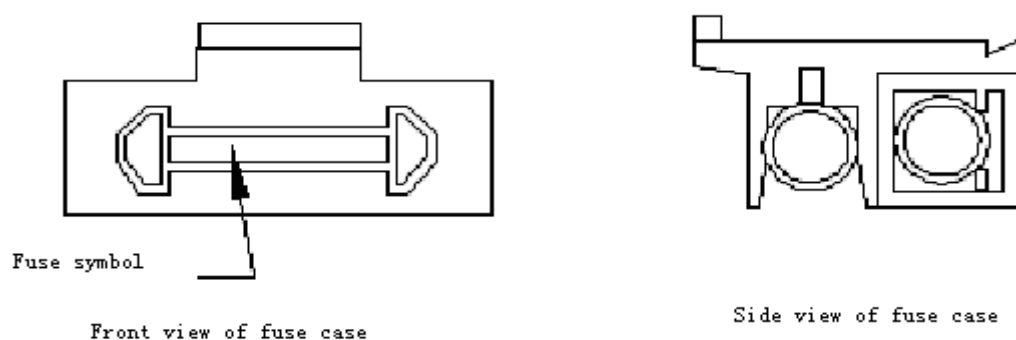

Figure 3
- (1) Cut off the power, and unplug the plug the power cord connected with the external electric supply socket. Then draw another end of the power cord connected with the centrifuge.
- (2) There is a fuse case equipped on the under part of electric outlet on instrument back. (See figure 3) There is a marking for fuse symbol, and find the V-shape slot on fuse case. (See figure 4) Pull out the fuse case with slotted point screw driver into the V-shape slot.
- (3) Take out the damaged fuse and replace it. The model of fuse of the centrifuge is BGXP 5×20 、 250V 10A.
- (4) Put the fuse case into electric outlet.